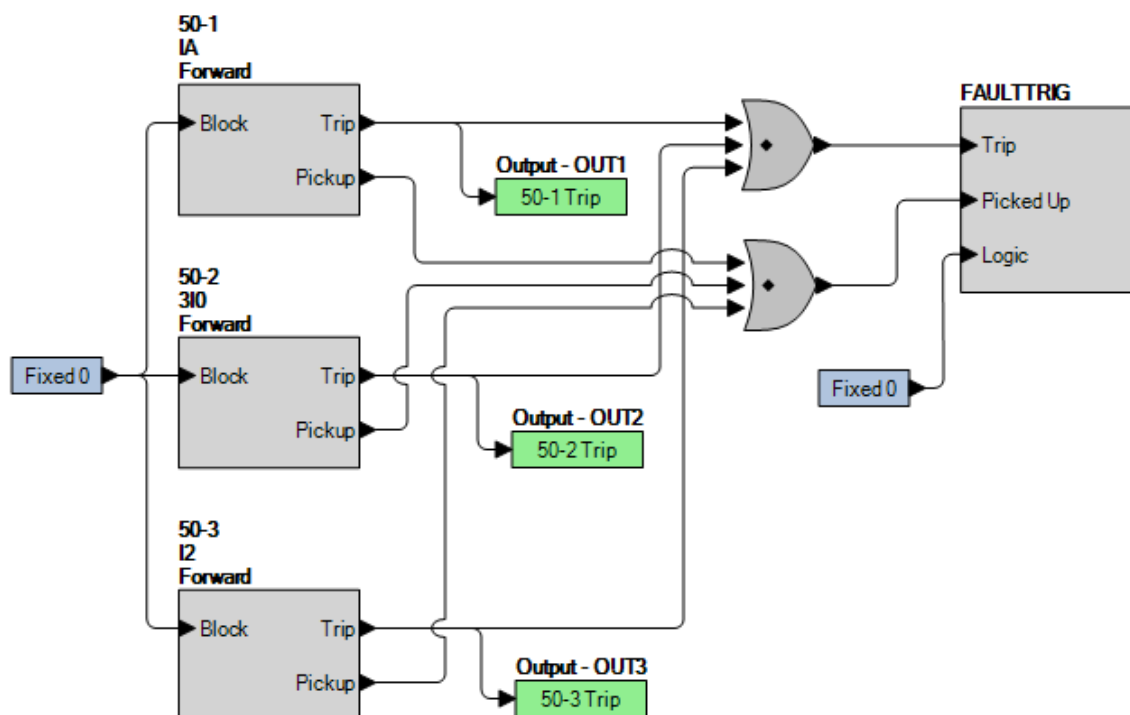

Figure 66-1. BESTlogicPlus Settings
Step 2: Use BESTCOMSP*Plus* to configure the BESTlogic*Plus* programmable logic shown in Figure 66-1.